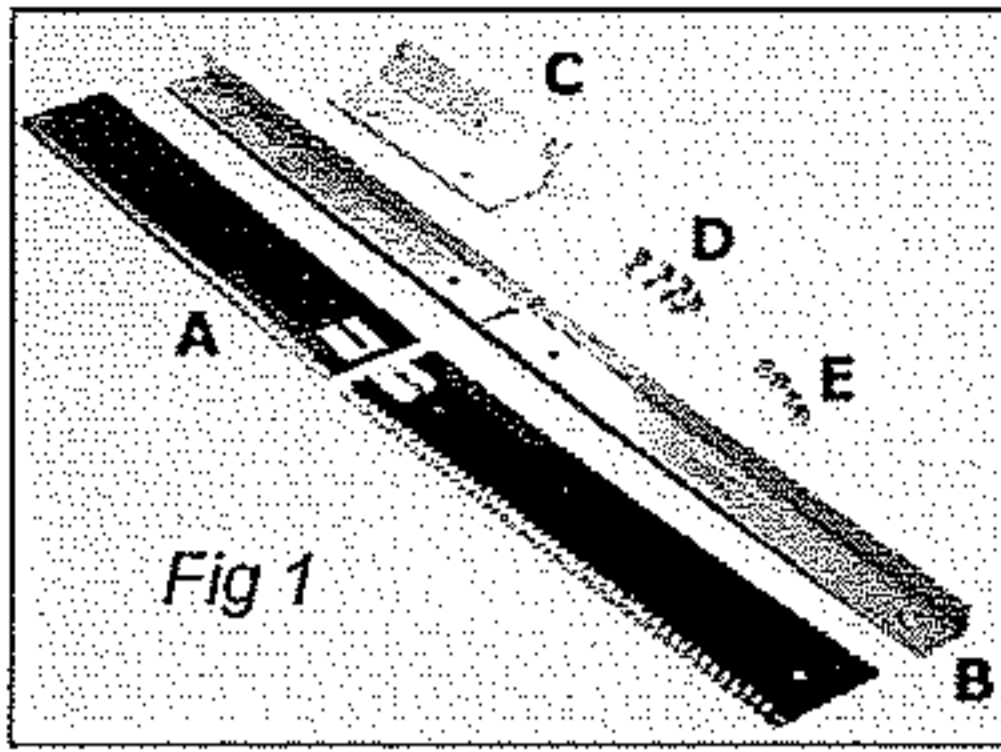

Fig 1
1. Lay the 2 serrated steel blades (A) with the WARNING label side face down and arrange the arrows so that they are pointing towards each other (figure 1).